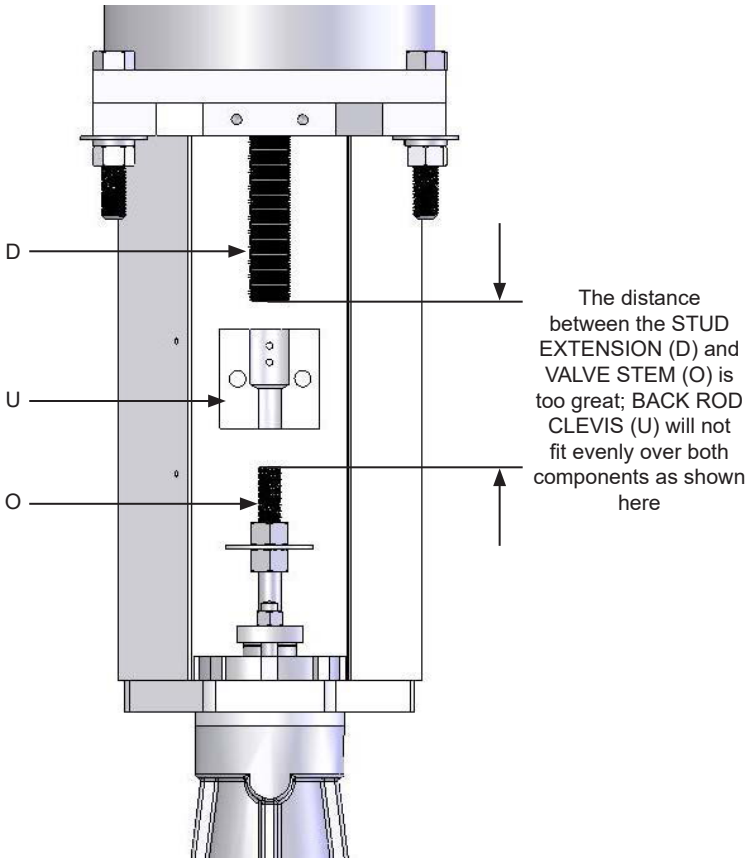

Figure 68. Example of how Valve Stem fluctuation can prevent further continuation of complete assembly (Rod Clevis cut-away to show inside hole depths)
The manufacturer of the Valve Stem has stated that length of VALVE STEM (O) can fluctuate as much as $\pm 1/2$ ". This indicates that, when mounted, distance between STUD EXTENSION (D) and VALVE STEM (O) may be too far apart to continue assembly. The next step in this assembly would be to attach BACK ROD CLEVIS (U) to both VALVE STEM (O) and STUD EXTENSION (D). However, if the distance between STUD EXTENSION (D) and VALVE STEM (O) is too great, BACK ROD CLEVIS (U) will not attach to both components (see figure 68).